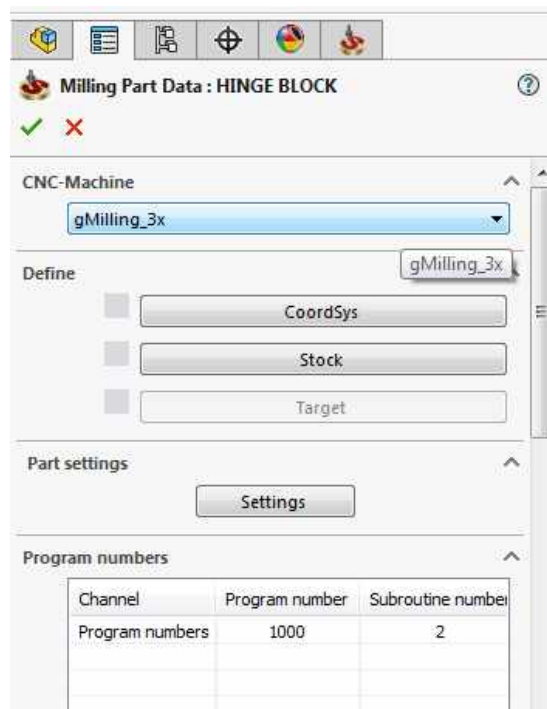

Fig. 6. Selection of a CNC-Machine Controller
- Select the CNC-Machine Controller (Fig. 6);